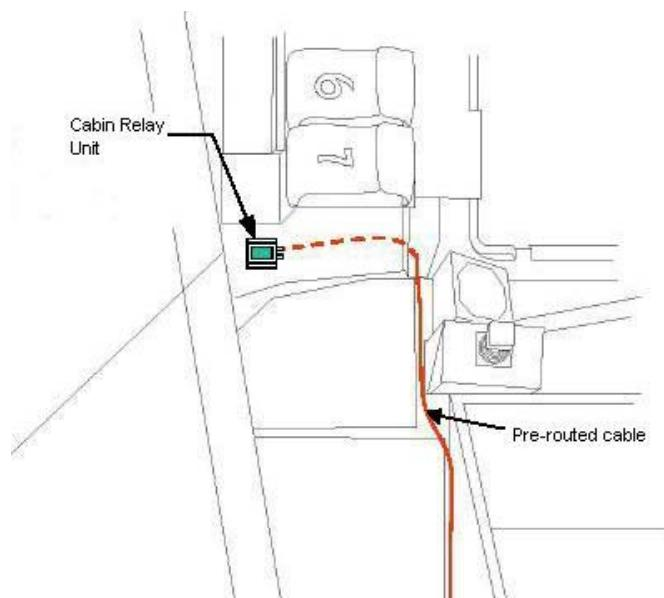

Figure 8-2.- Aft STBD location.
- W7 Connect to J1 on Cabin Relay Unit S/N 1664 and secure to STBD side of aft cabin with Velcro (see fig 8-2)